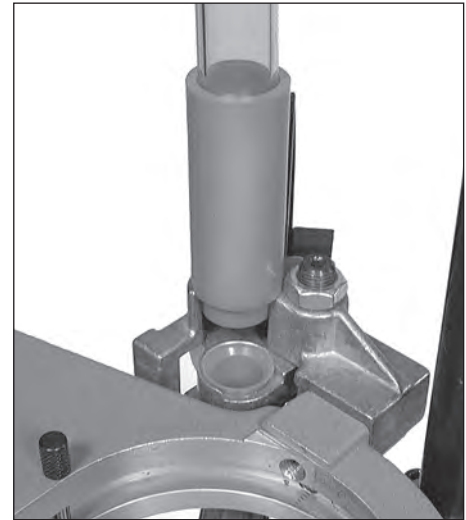

FIG 178
Step 13) Replace the casefeed arm bushing and casefeed adapter **FIG 178**: